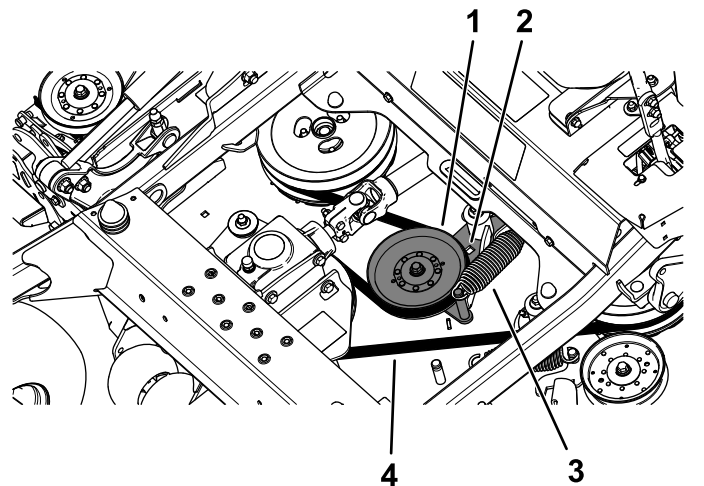

Figure 64
5. Use a ratchet in the square hole in the idler arm to remove tension on the idler spring (Figure 64).
6. Remove the belt from the mower deck pulleys (Figure 64).